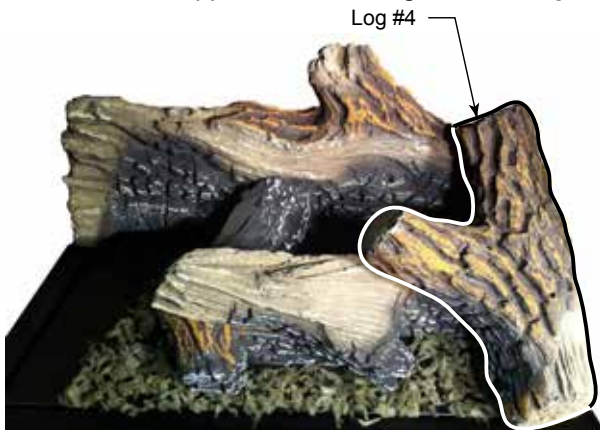

Figure 25
6. Position Log #4 over Logs 2 & 3 by aligning the indentations on the bottom of Log #4 over the protrusions on Logs 2 & 3. Rest the front end of Log #4 on the sheet metal bracket support in the front right corner. *Figure 25*